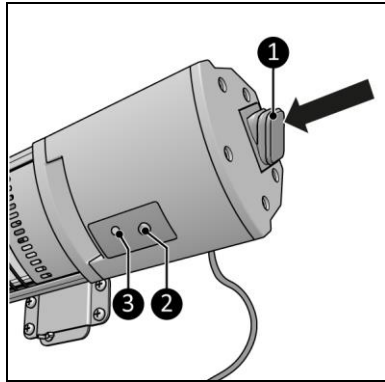

Figure 14
1. Press the ON/OFF switch (Figure 14, pos. 1).
2. The light indicator (Figure 14, pos. 3) shows a red light.
3. Press the control button (Figure 14, pos. 2) or the ON/OFF button on the remote control (Figure 5, pos. 1).
4. The light indicator (Figure 14, pos. 3) shows a green light, which indicates the medium setting.
5. Press the control button on the control panel (Figure 14, pos. 2) or the II button on the remote control (Figure 5, pos. 2).
6. Both light indicators (Figure 14, pos. 3) show a green light, which indicates the high setting.
1. Press the control button on the control panel (Figure 14, pos. 1) or the ON/OFF button on the remote control (Figure 5, pos. 1).